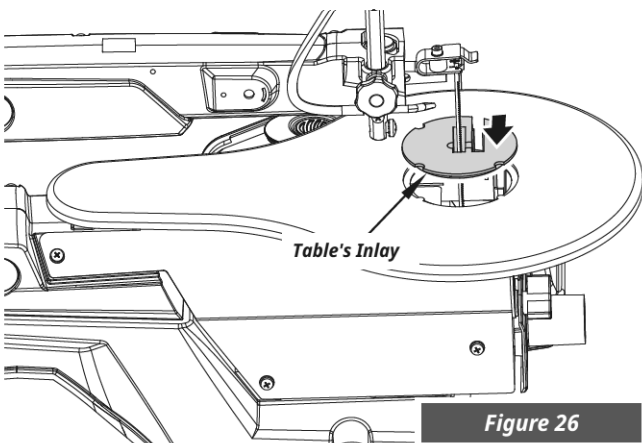

Figure 26
8. Install the table inlay back. (See Figure 26)